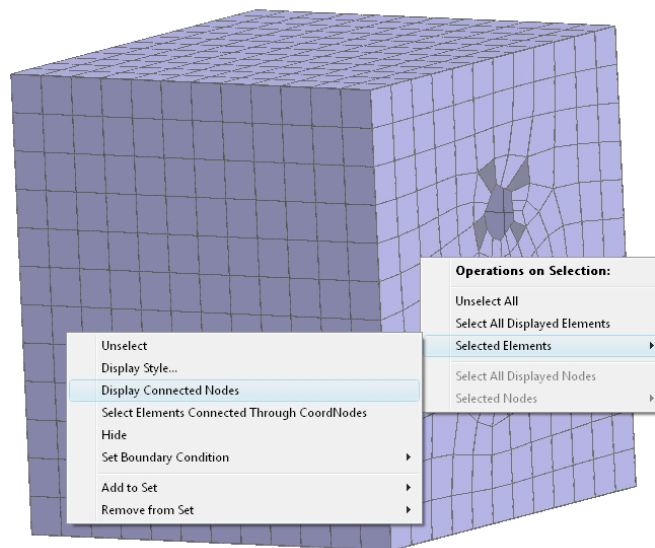

Figure A.36 Display connected nodes for creating a seam.
- Right-click on the mesh while holding down the *shift-key* to view the context menu and select: **Selected Elements** → **Display Connected Nodes** as shown in Figure A.36.
- Right-click on the mesh while holding down the *shift-key* to view the context menu and select: **Selected Elements** → **Display Connected Nodes** (similar to the Figure A.36).